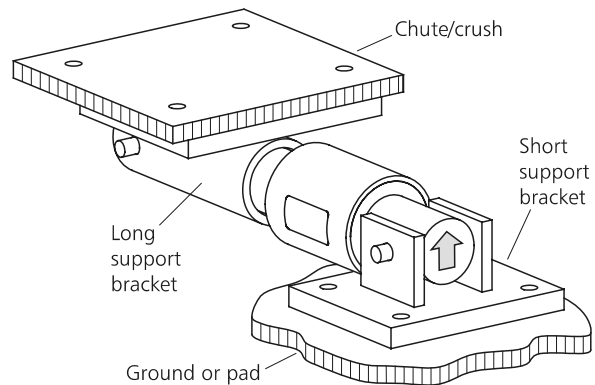

Figure 5 Long support bracket attached to the chute/crush, short support bracket mounted to the ground and loading direction arrow up.
- with the long support bracket attached to the chute/crush and the short support bracket mounted to the ground or to a pad (see *Figure 5*).